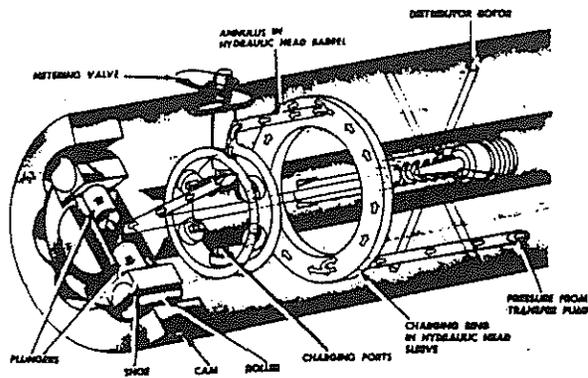
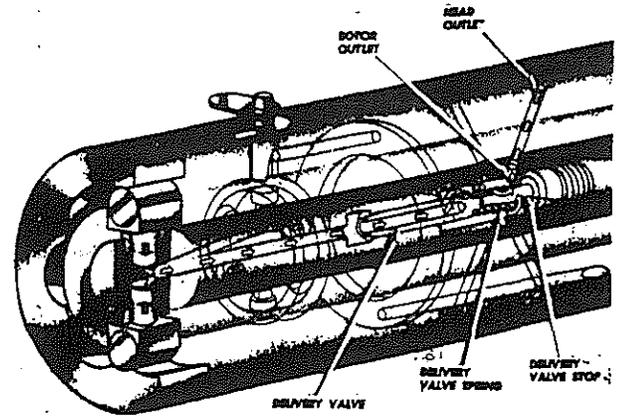

FIG. 3 (Charging)
FIG. 4 (Discharging)
- a. If the fuel tank is located above the fuel filters, loosen the vent plug (Figure 3) on top of the filter head and open the fuel tank shutoff valve. Fuel, flowing by gravity, will force the air out of the filters. When the flow of fuel from around the vent plug is free of air bubbles, tighten the vent plug securely.
Figs. 3 and 4 show the porting relationships during the charging and discharging cycles.
**CHARGING CYCLE** - As the rotor revolves, Fig. 3, the angled passage in the rotor registers with one of the charging ports in the charging ring. Fuel, at transfer pump pressure, then passes into the pumping cylinder, forcing the plungers apart a distance proportionate to the amount of fuel required for injection on the following stroke. Only at full load will the plungers move to the most outward position, controlled by the leaf spring setting (maximum fuel adjustment).
Note in Fig. 3 that while the angled passage in the rotor is in registry with one of the charging ports in the hydraulic head, the rotor outlet is out of registry with the head outlet. Note also that the rollers are between the cam lobes. Compare their relative position in Fig. 3 with that of Fig. 4.
**DISCHARGE CYCLE** - As the rotor continues to revolve Fig. 4, the angled passage passes out of registry with the charging port. For a brief interval the fuel is trapped until the rotor outlet registers with one of the head outlets. As this registration takes place both rollers contact the rise of the cam lobes and are forced together, Fig. 4. This is the discharge or injection stroke. The fuel trapped between the plungers is forced through the axial passage, through the delivery valve and out the rotor outlet.